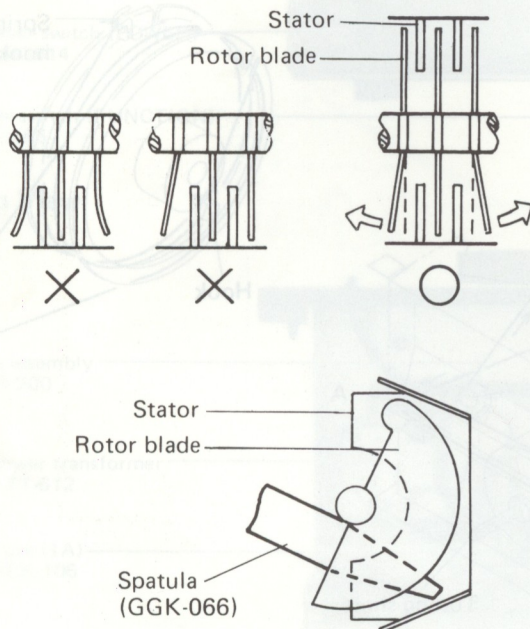

Fig. 8-1 Adjustment of tuning capacitor
- The tuning coils in the FM front end dose not have an adjusting core. Consequently, tracking adjustments at 90MHz are performed by regulating the gap between rotor and stator of the tuning capacitors (VC_1 , VC_3 and VC_5). The expression "adjust VC (VC_1 , VC_3 , VC_5) found in the text means that the two outer rotor blades of each of these tuning capacitors are to be extended outwards with spatula (Part No. G GK-066) as shown in Fig. 8-1.